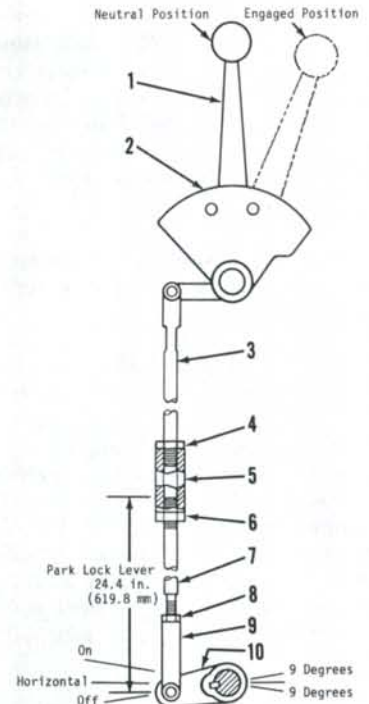

Fig. 194—Illustration showing adjustment dimensions and components for park lock lever on Model 2090, 2290, 2094 and 2294 tractors.
176. LINKAGE ADJUSTMENT. To adjust park lock linkage refer to Fig. 194 and disconnect yoke (9) from lever (10). Place gear shift and park lock quadrants on console in neutral position. Place park lock lever (10) in off position approximately 9 degrees below horizontal as shown. Adjust lower yoke (9) so that